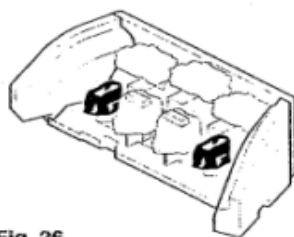

Fig. 26
8. The two small coals (Fig. 26) have shaped indentations on their underside. These should be located on the like-shaped outer pegs on the underbed.